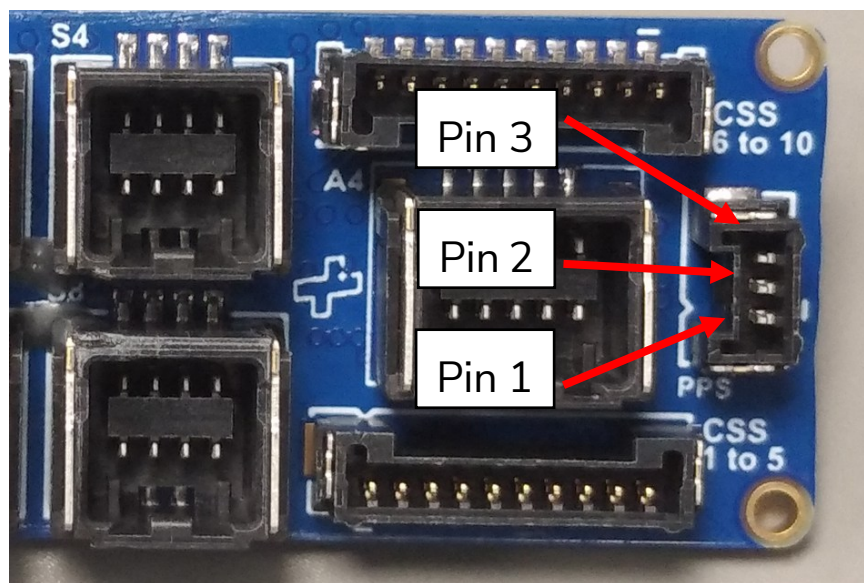
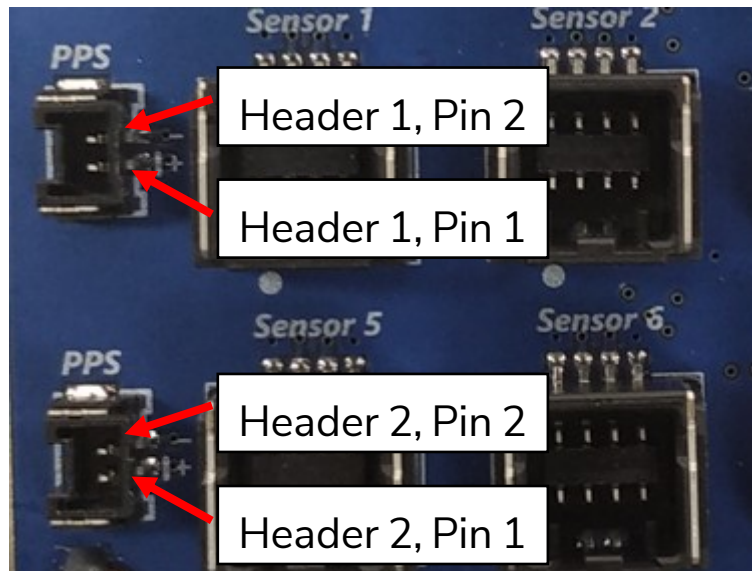

Figure 69: Pinout of the PPS output header, PC104 variant
Figure 70: Pinout of the PPS output headers, Backplane variant
The CubeComputer uses the PPS input to generate either a single-ended or differential PPS output signal for use by certain sensor devices which might require such a signal. The voltage levels on the PPS output pins are simply recorded in the next steps because the expected values are highly dependent on the specific client configuration. See Figure 69 and Figure 70 for specific pin numbers on the PPS Output connectors of the two CubeADCS variants.
Note that Figure 70 shows one of the existing CubeConnect pinouts of the Backplane variant, identified by the lettering “v4.3” on the silkscreen outline. Newer revisions (identified by “v4.4” on the silkscreen) have the same pinout as for the PC104 variants, with the same three signals appearing on two headers. See [RD2] for further detail.
- 10) Using a multimeter, record the voltage levels between GND and all pins indicated in Figure 69 or Figure 70 in Table 54.
- 12) Using a multimeter, record the voltage levels between GND and all pins indicated in Figure 69 or Figure 70 in Table 54.